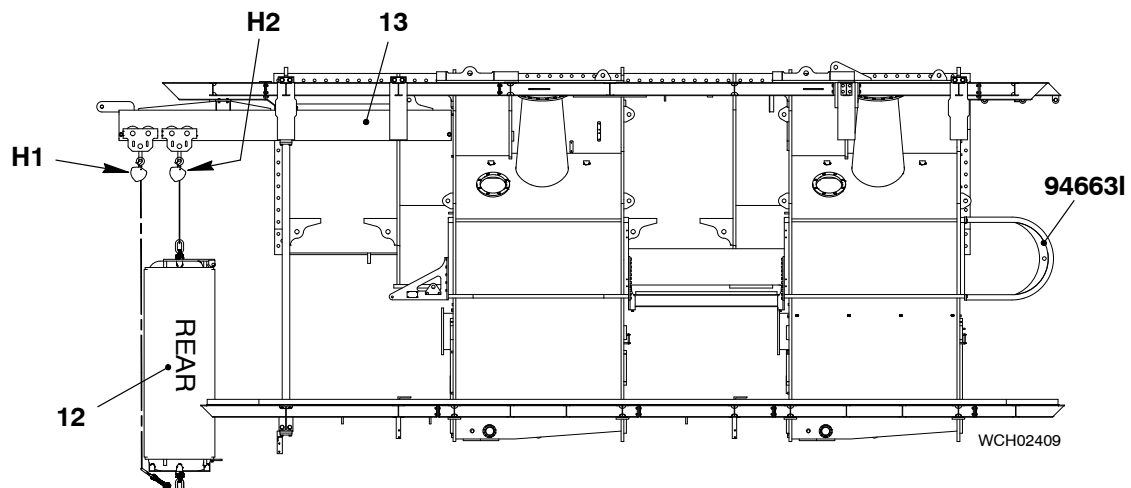

Fig. 14
- 1) Make sure that all surfaces of the SAC (12) and the related surfaces in the scavenge air receiver are clean and have no damage.
- 2) Attach the support (94663I, Fig. 14) to the rear of the SAC housing.